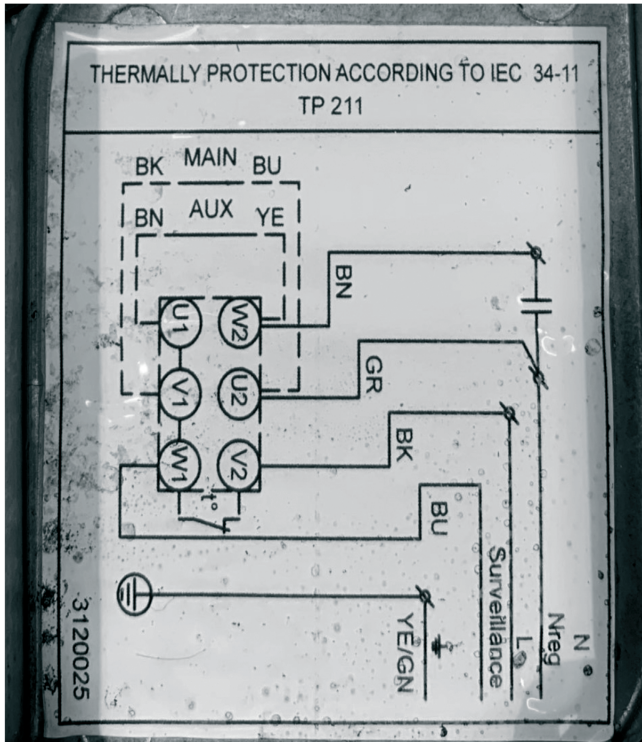

Fig. 1
**12** Wire the new motor as follows. Refer to Fig. 1 for additional clarification.